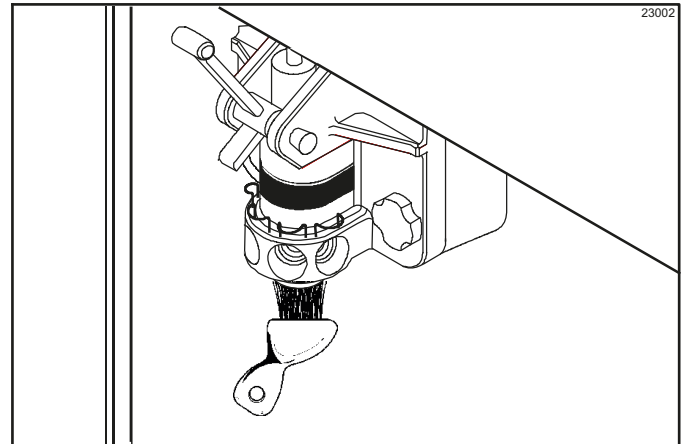

Figure 6-51
5. Return to the machine with a small amount of cleaning/sanitizing solution. With a pail below the door spout, dip the door-spout brush in the solution. Brush-clean the syrup ports in the freezer door, door spout, bottom of the driven spinner, spinner blade, and syrup line fittings. (See Figure 6-51.)